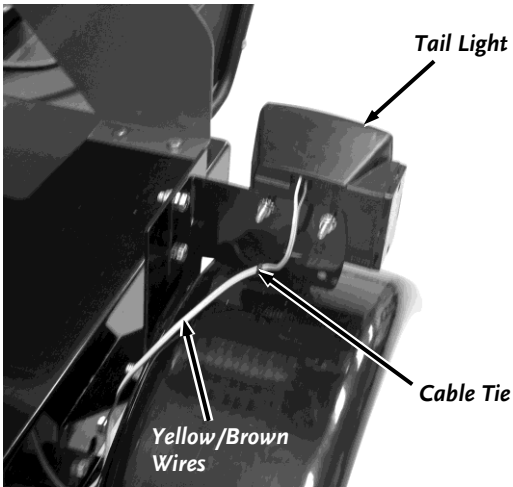

Figure 15
10. There may be as much as 16 feet of extra wire at each Tail Light location (**Figure 15**). Cut the excess Wire, leaving enough to insert into the back of each Light after Wires are stripped in the next step.